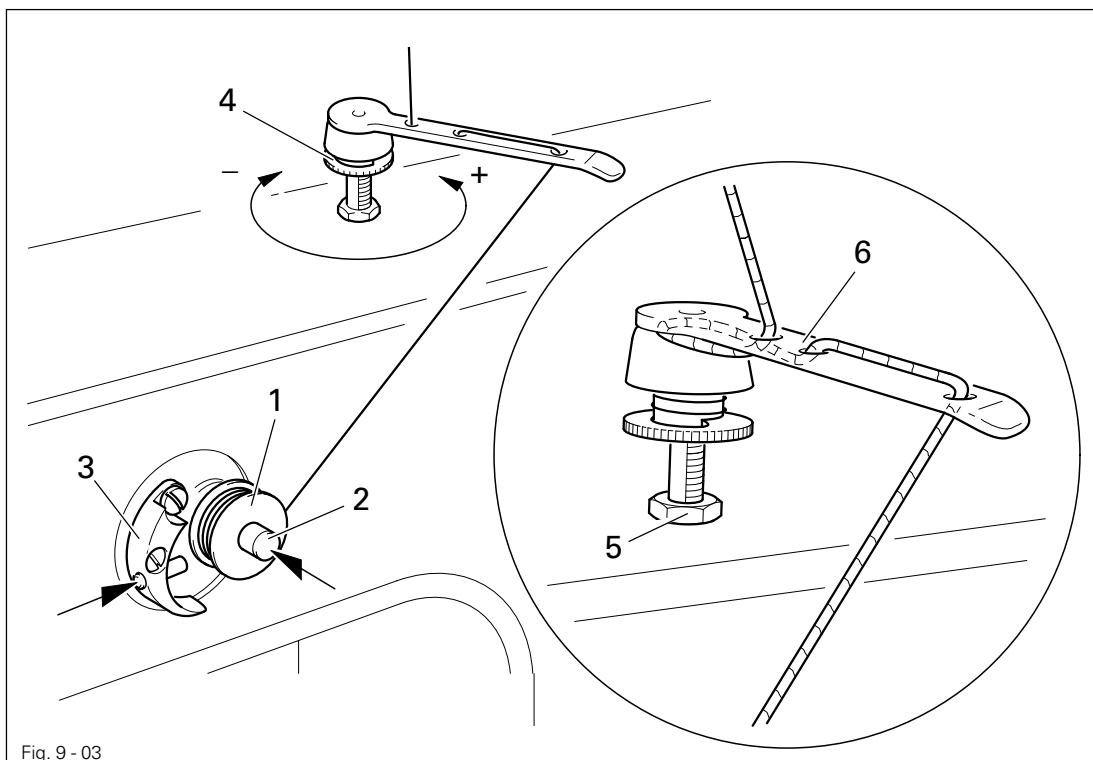

Fig. 9 - 03
- Thread the bobbin as shown in Fig. 9 - 03 and wind it clockwise around bobbin 1 a few times.
574 is shown in Fig. 9 - 04.